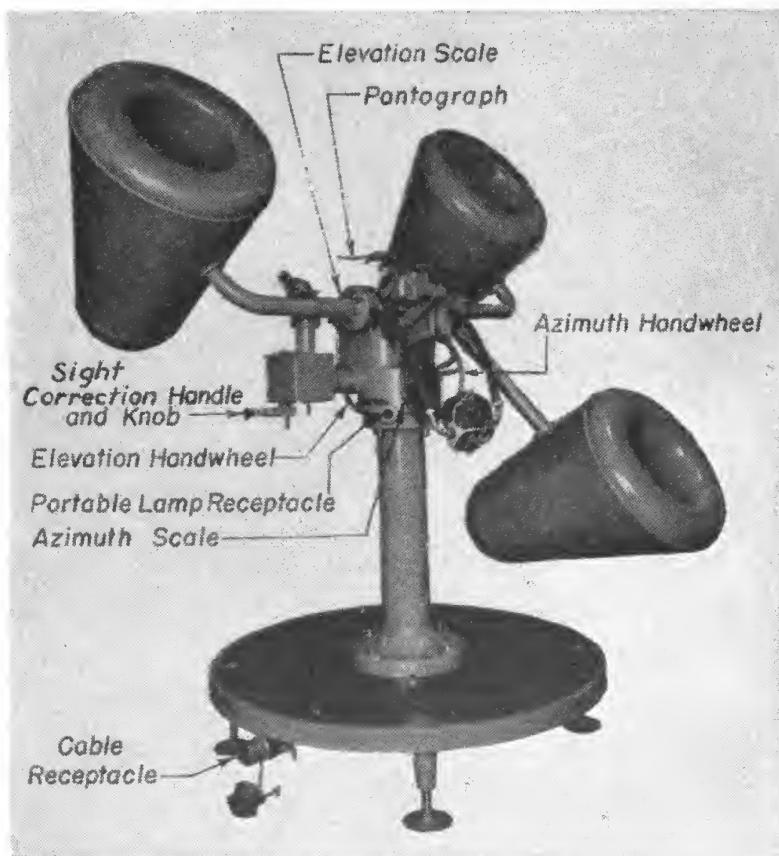

FIGURE 23.—Sound locator M2.
- (1) Two horn assembly.
- (2) Single horn assembly.
- (3) Corrector assembly (in carrying case).
- (4) Column.
(5) Platform.
(6) Cable and cable reels.
*Q.* Which horn is a common horn for the azimuth and elevation listeners? *A.* Upper right horn, figure 23.
*Q.* Give the nomenclature and state the purpose or use of each part of the M2 sound locator. *A.* See figure 23.
10. Target air speed scale	Air speed of airplane is indicated in miles per hour. Use knob (2) to set in correct air speed.
11. Pantograph pointer and ball.	The corrector operator centers the pantograph ball on the cross lines of mirror (12).
Q. Point out the following parts and give the purpose or use of the part (fig. 23):
Common horn.....	Used to collect sound for both azimuth and elevation. (Upper right horn, fig. 23.)
Elevation horn.....	Used to collect sound for azimuth. (Lower right horn, fig. 23.)
Azimuth horn.....	Used to collect sound for azimuth. (Left horn, fig. 23.)